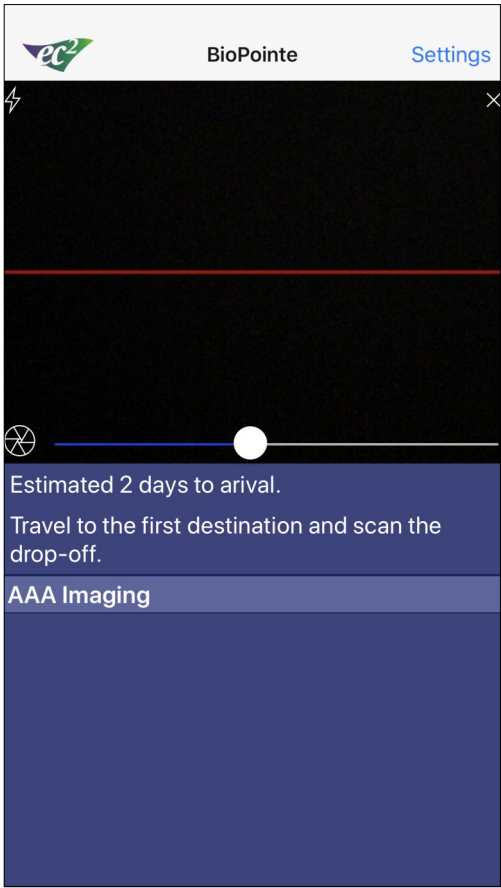

Fig 7
- c. Arriving at the delivery location. Click on the camera to scan facility barcode at location. See Fig 7